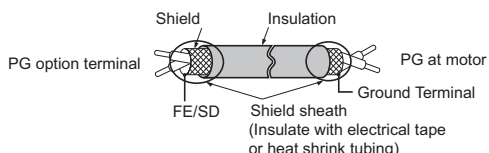
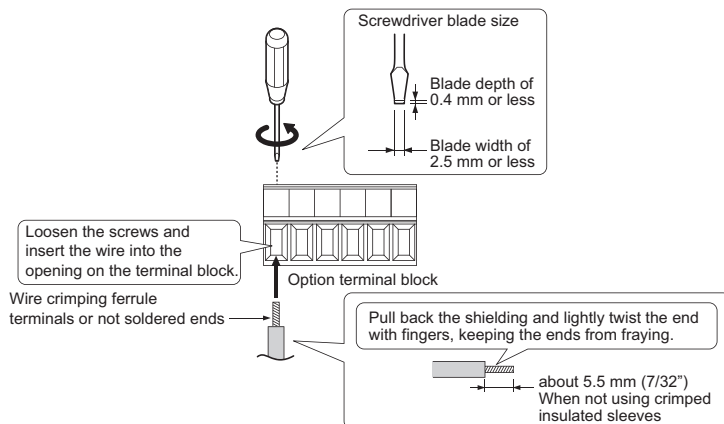

Figure 6 Prepare Ends of Shielded Cable
Figure 7 Connect Cable Wiring
2. The drive has only two ground terminal screw holes (I). Two ground wires should share the same ground terminal when connecting three options.
4. Prepare and connect the wire ends as shown in **Figure 6** and **Figure 7**. Refer to **Wire Gauges and Tightening Torques on page 35** to confirm that the proper tightening torque is applied to each terminal. Take particular precaution to ensure that each wire is properly connected and wire insulation is not accidentally pinched into electrical terminals.
5. Wire the motor PG encoder to the terminal block on the option according to **Figure 7**.